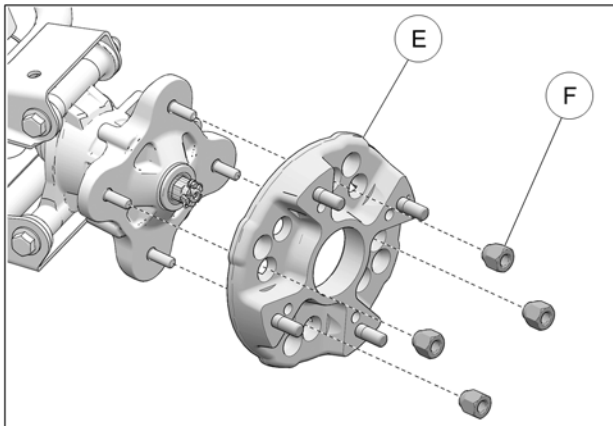

Fig. 10
- Install wheel spacers (E) on rear hubs. Use the provided M12 wheel nuts (F) for spacer installation. See Fig. 10